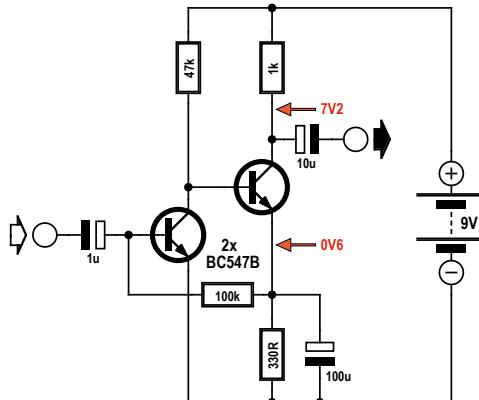

Figure 5. A two-stage audio amplifier with DC coupling.
Multi-stage audio amplifiers can be created at reduced cost if you forego capacitor coupling between the individual stages and employ DC coupling instead. The collector resistor of the first transistor is now simultaneously the base resistor of the second one (**Figure 5**). Frequently this also simplifies setting the bias point, with the base current being appropriate for both transistors.
**Figure 5** shows a two-stage, directly coupled amplifier. The base current of the first transistor is branched off from the emitter of the second stage. This provides negative feedback and stabilisation of the bias point. The voltage drop across the relatively small base resistor of  $100\text{ k}\Omega$  can be disregarded and consequently the emitter voltage at the second transistor amounts to around 0.6 V. In the process the emitter resistor of  $330\ \Omega$  determines the emitter and collector currents of the second stage, which are largely independent of the supply voltage.